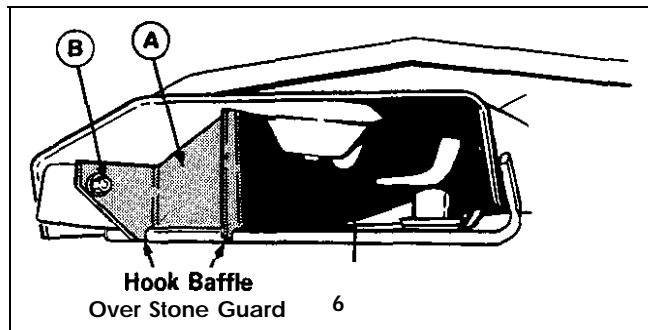

Figure 8.
13. Install the new baffle (A, figure 8) in deck on stone guard using existing hardware. Hardware may be installed with nut to inside or nut to outside.